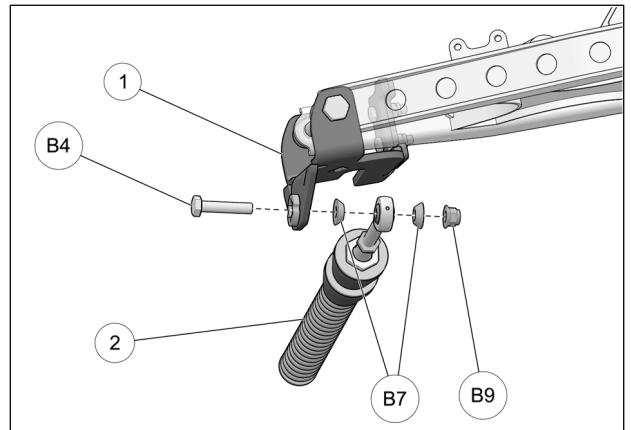

Fig. 13
14. Attach stabilizing rod (2) to anchor bracket (1), using bolt (B4), Taper sleeves (B7), and nut (B9). Torque to 70 N•m [52 lb•ft]. See Fig. 13